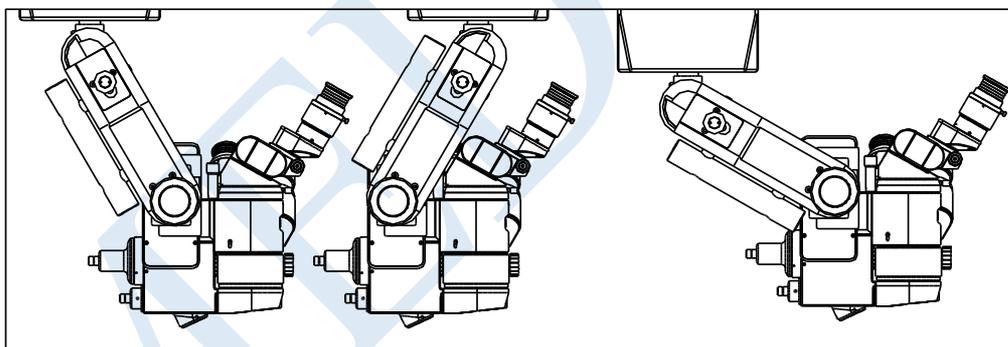

Fig.9
5. Confirm the angle of the holding arm for the microscope. The holding arm could be adjusted at 30° , 60° , 28° . When it's set to 30° or 60° , there may be great space above the microscope, and it's suitable to assemble other attachments. When it's set to 28° , and if the X-Y coordinator resets to the center, then the main microscope may be coaxial with the X-Y hanging shaft. When adjusting, pull out the spanner[45] and push downwards to depart the fixation block, and then rotate the holding arm till the needed angle, then the fixation block will rebound to the groove automatically(indicated in Fig. 9).